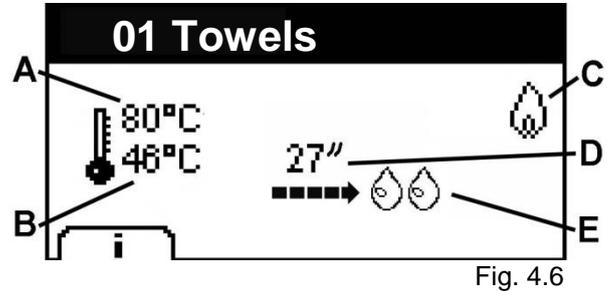

Fig. 4.6
- Once the program has started, the screen displays the programmed temperature (Fig. 4.6/A), the internal temperature of the machine (Fig. 4.6/B), the heating icon in activation phase (Fig. 4.6/C), the moisture level programmed (Fig. 4.6/E) and the time elapsed (Fig. 4.6/D).